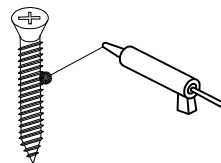

FIG.2A
4. Apply silicone to the 3/4" screw (#18) threads [SEE FIG.2A]